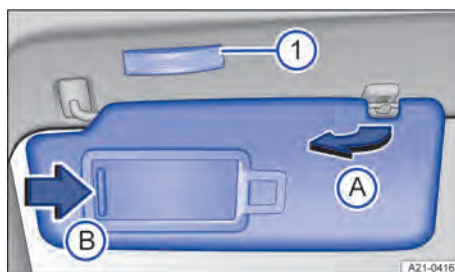

Fig. 92 In the front headliner: sun visor.
2. Pull out of the bracket and swing over towards the door → Fig. 92 Ⓐ.
1. Slide the cover open in the direction of the arrow → Fig. 92 Ⓑ.
The light → Fig. 92 ① will go out when the vanity mirror cover is pushed back or the sun visor is folded back up.